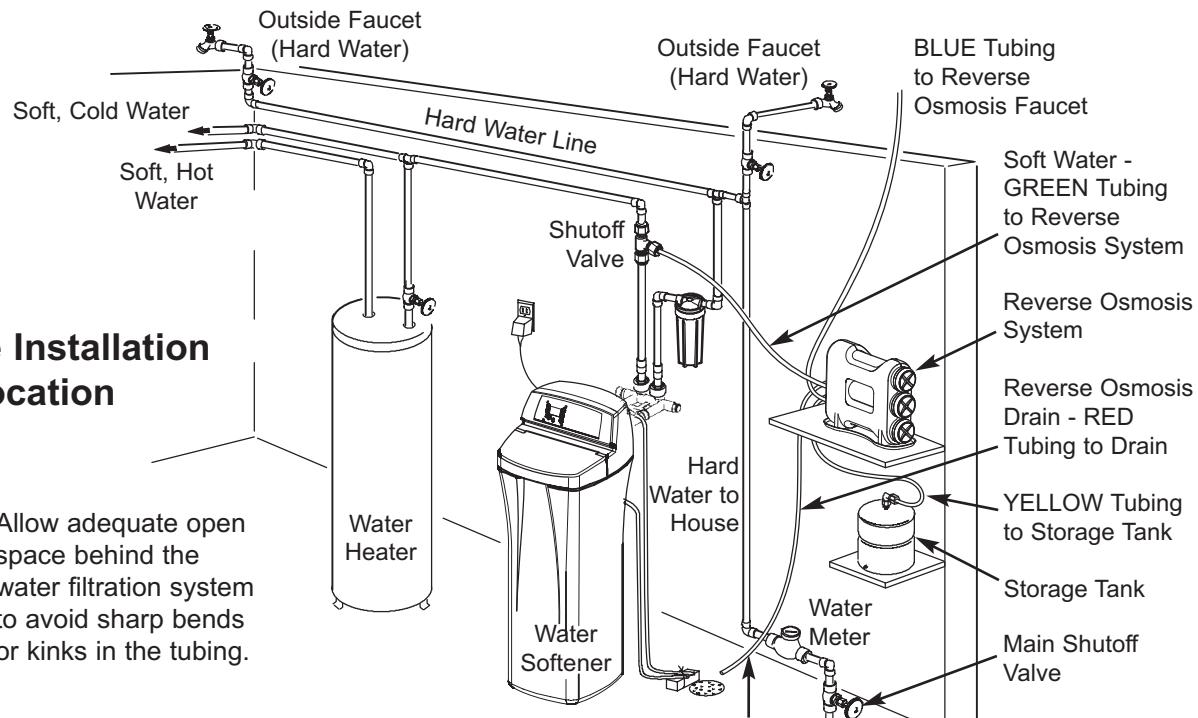

FIG. 11
As shown in Figures 11 and 12, the drain tube from the RO filter runs directly to an open drain. This is often used for remote location installations.
- Locate the 1/4" red tube and determine whether it is long enough to reach from the Reverse Osmosis filter assembly to the drain point . See Fig. 11.